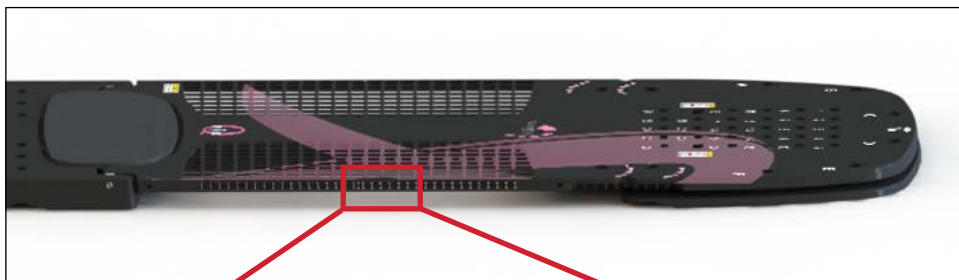

FIG. 27
3. Line up the alignment mark in the middle of the side scale to the registration mark on the patient surface, and the bottom edge of label just above the bottom edge of the Patient Surface. Zero should be positioned at the head end of the device. (Fig. 27 & 28)